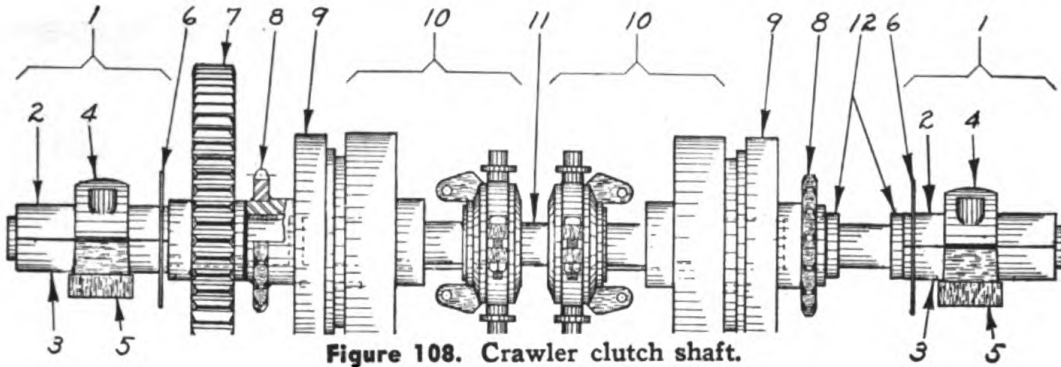

Figure 108. Crawler clutch shaft.
Parts which show excessive wear should be replaced. Particular attention should be given to the following: Gear (12). The gear should not be used if the bushing is a "sloppy" fit. This gear is heavily loaded when the machine is in crowding speed, therefore a loose fit on the shaft may wear the teeth prematurely also the teeth on the clutch shaft gear (7) Figure 108.
Slotted holes are provided in the bearing bases so the shaft may be moved to get the proper mesh with the crawler clutch shaft gear (7) Figure 108. Check the back-lash of the gear around the entire circumference. When the shaft is moved, be certain it is aligned in the three bearings so it may be turned by hand. Should a shim be required under one bearing all bearings should be shimmed so the shaft does not bind. This is essential because the shaft is supported by three bearings.
The chains, bearings (1) Figure 108, clutch bands, clutch linkage and brake bands of the Crawler Clutch shaft (3c) Figure 96, may be renewed without removing the shaft (11) Figure 108, from the substructure housing.
- (c) Remove bearing caps (4) Figure 108, lift out upper hearing half (2). Turn lower bearing half (3) to top of shaft and lift out.
(c) It is not necessary to remove side plates (28), as for the main jack-shaft since there are separate patch plates (6) Figure 108, provided over each bearing (1) on this shaft. Remove these plates then the shaft assembly is free to be lifted out of the housing.
Parts which are worn excessively should be replaced. Attention should be directed to sprockets (8) Figure 108, if teeth are worn and none are available they can be interchanged with the one on the opposite side. The clutch drums can be pressed off the sprocket hub if drums are to be replaced and sprockets are to be used again. Sprocket hubs may be rebushed.
Lubricate bearings (1) figure 108 and sprocket hubs (8) thoroughly before the machine is put into operation.